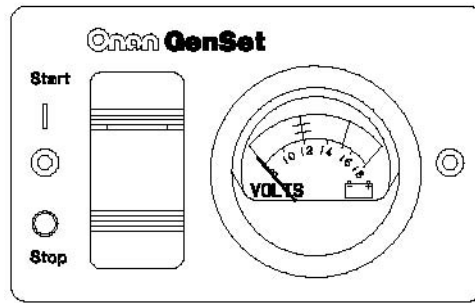

FIGURE 5. REMOTE SWITCH / DC VOLTMETER
- Remote switch with status indicator light and DC voltmeter (Figure 5).